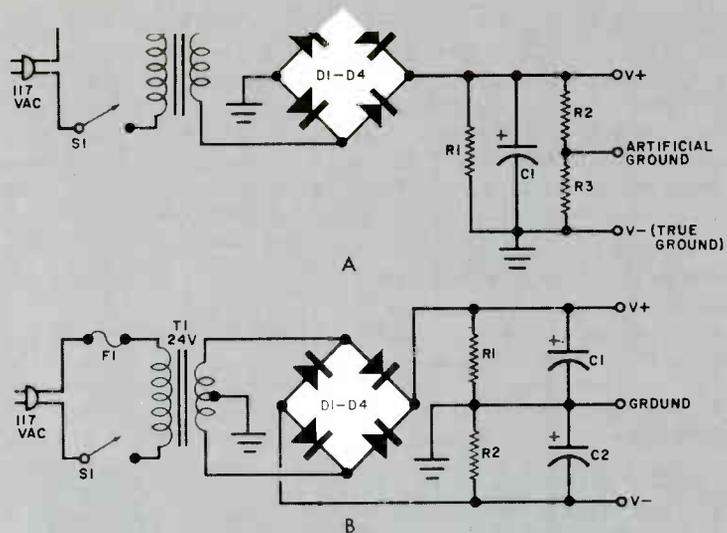
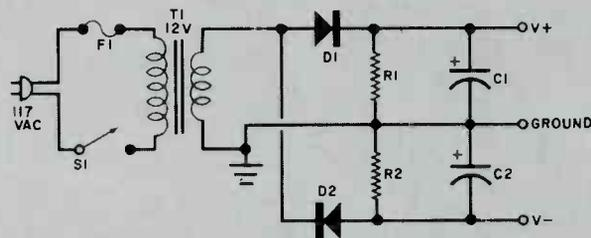
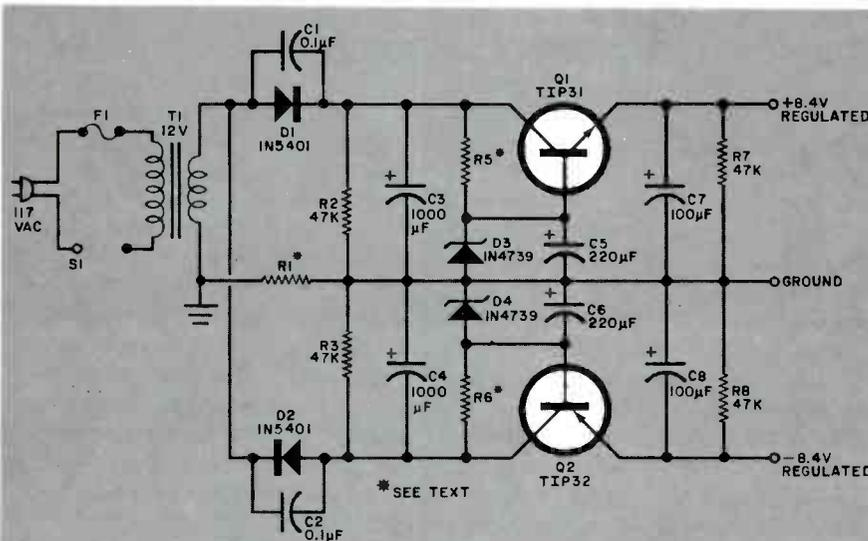

Fig. 1. Single-ended dc power supply for op-amp (A). Bipolar dc power supply that employs a center-tapped transformer (B).
Fig. 2. A bipolar dc supply whose transformer does not have a center tap.
Fig. 5. Complete regulated bipolar supply for op-amp circuits. Transistors  $Q1$  and  $Q2$  might require heat sinking.
**Basic Power Supplies.** Appearing in Fig. 1 are simple single-ended (A) and bipolar (B) power supplies. In the single-ended supply, bridge rectifier  $D1$  through  $D4$  delivers pulsating dc to filter capacitor  $C1$ , which provides a smoothed dc output. Resistor  $R1$  is a bleeder component. A voltage divider comprising  $R2$  and  $R3$  synthesizes an artificial signal ground at half of the positive dc output voltage (assuming  $R2 = R3$ ) or approximately +17 volts. The op amp's positive power-supply terminal is connected to  $V+$  and its negative supply terminal is connected to  $V-$ , which is actually true ground. An amplifier pow-
As a rule, operational amplifiers consume small amounts of current. This points to a disadvantage of the bipolar supply shown in Fig. 1B. Because only a small amount of output current is required, compact transformers rated at 300 mA or less are particularly attractive. Unfortunately, small transformers with center-tapped secondaries are not as widely available as ones lacking a center tap. The bipolar supply shown schematically in Fig. 2 offers a solution to this problem.
In practice, the true grounds of Figs. 1 and 2 are often connected to earth ground for shielding purposes. A fundamental difference between the bipolar supplies of Figs. 1B and 2 is that larger filter capacitors are required in the circuit shown in Fig. 2 for the same amount of ripple rejection. This is because the ripple frequency is lower (60 Hz as opposed to 120 Hz). Therefore, twice the capacitance is required if the capacitive reactance of the ripple shunt path to ground is to be kept at the same value as before.
**Practical Supplies.** A complete bipolar regulated power supply for op-amp audio applications appears schematically in Fig. 5. It is basically an amalgam of Figs. 2 and 4 with a few